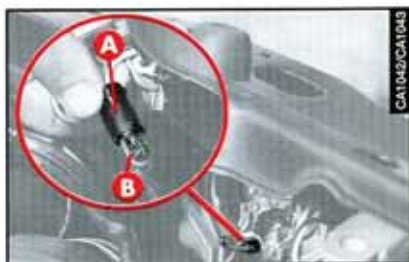

fig. 13
- Withdraw the bulb holder (A-fig. 13) from its housing.
- Remove the bulb (B-fig. 13) and change it.